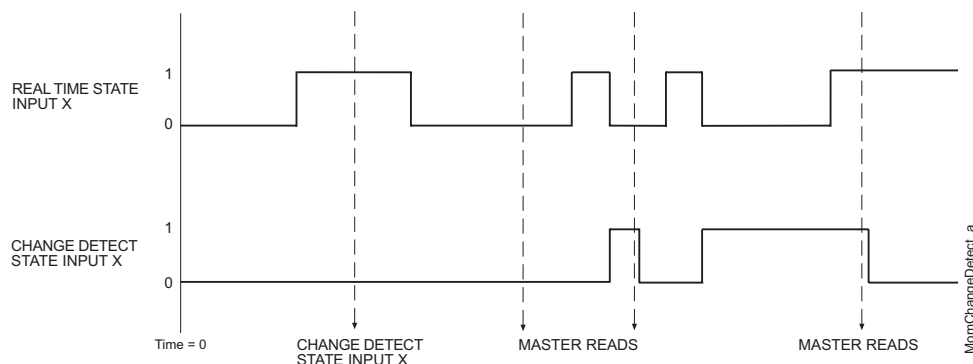

Fig. 2.6.-1 Change detection bit
As the master may not detect the changes of states of all digital signals when scanning, an additional change detect (CD) indication bit is created for every momentary indication point; see the example in Figure 2.6.-1.